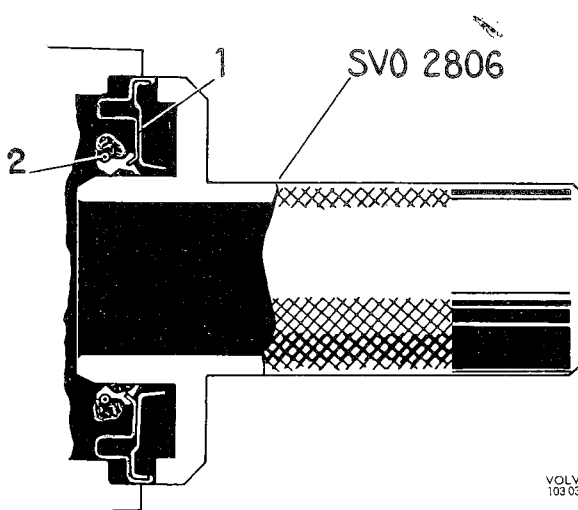

Fig. 4-138. Installation of oil seal
3. Fit the new oil seal with tool SVO 2806. When fitting the oil seal, lubricate the seal lips with grease. At the same time grease the spring coil. See Fig. 4-138. This is to prevent the spring coil from jumping out during fitting.